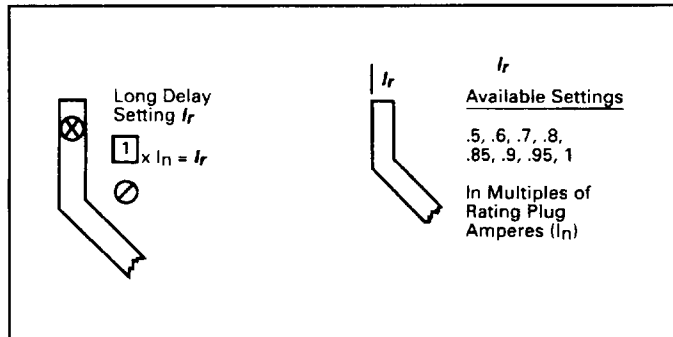

Fig. 8.1 Long Delay Current Settings
Prior to placing any circuit breaker in operation, each Trip Unit protection setting must be set to the values specified by the engineer responsible for the installation. The number of settings that must be made is determined by the protection supplied as illustrated in Figs. 8.1 through 8.7. Each setting is made with a rotary switch, using a small screwdriver. The selected setting for each adjustment appears in its respective rectangular viewing window as illustrated in Fig. 1.
The available settings, along with the illustrated effect of changing the settings are given in Figs. 8.1 through 8.7.
There are eight (8) available Long Delay “Pick-up” Current Settings, as illustrated in Fig. 8.1. Each setting, called “ I_r ”, is expressed as a multiple (ranging from .5 to 1) of the rating plug current (I_n).